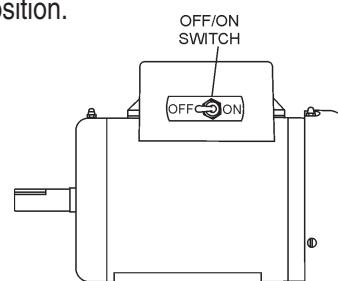

Figure 23. Electric Motor ON/OFF Switch (OFF Position)
1. Place the electric motor's ***ON/OFF*** switch (Figure 23) in the ***OFF*** position.